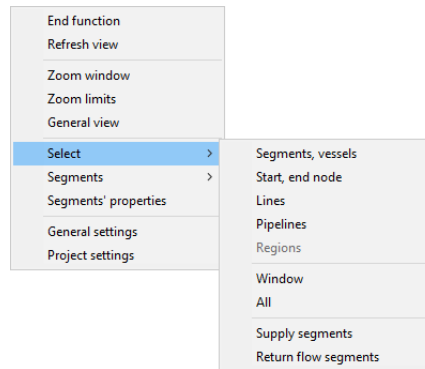

Figure 2.5.5: Context menu - Select
- The segments, which shall be assigned with a certain pipe dimension, are selected using **Edit >> Select** or  or the context menu (fig. 2.5.5), which can be opened by rightclicking in the graphical input window.